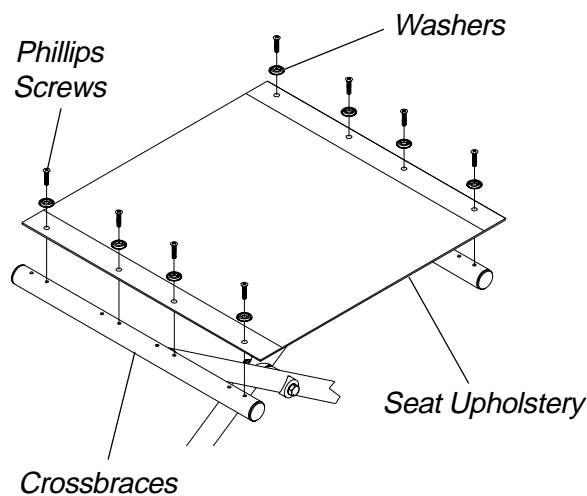

FIGURE 1 - REPLACING SEAT UPHOLSTERY
**REPLACING SEAT UPHOLSTERY (FIGURE 1)**
1. Remove the eight (8) phillips screws and washers that secure the existing seat upholstery to the cross-braces.